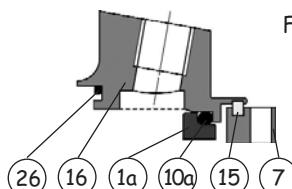

Fig. 18
4.5.2 Preassembling stationary group (fig.18)